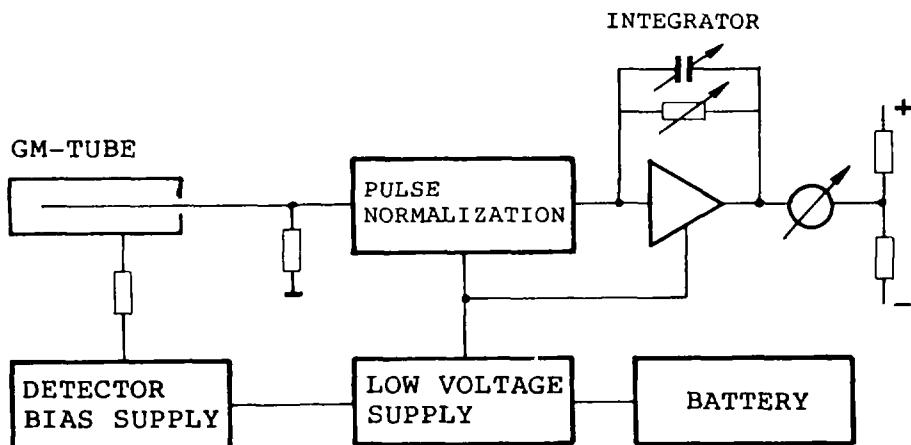

Fig. 11.5: Main components of a G.-M. counter
11.1.3.2 Survey meter with Geiger-Mueller tube (Fig. 11.5)